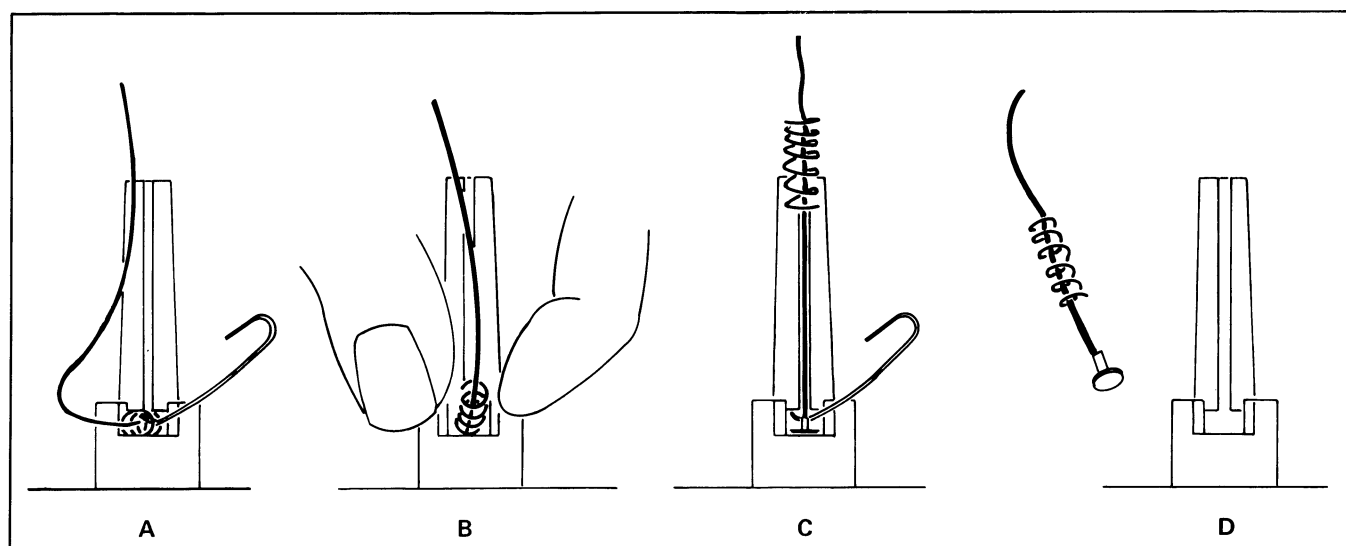

Figure 4-1. Removing the mA Input Line
- d. Keep tension on the wire so that the rear end of the spring is as shown in Figure 4-1, part A.
- e. Insert the hook of the paper clip as shown in Figure 4-1 part A. Gently pry upwards until a few turns of the spring are free from the fuse holder.
- f. Grasp the spring as shown in Figure 4-1, part B and turn counterclockwise until the spring comes completely free of the fuse holder.
- i. With the paper clip, pry the spring retainer free of the fuse holder as shown in Figure 4-1, part C.
- j. Pull the wire free of the slot in the fuse holder. Figure 4-1, part D shows the mA input line free of the fuse holder.